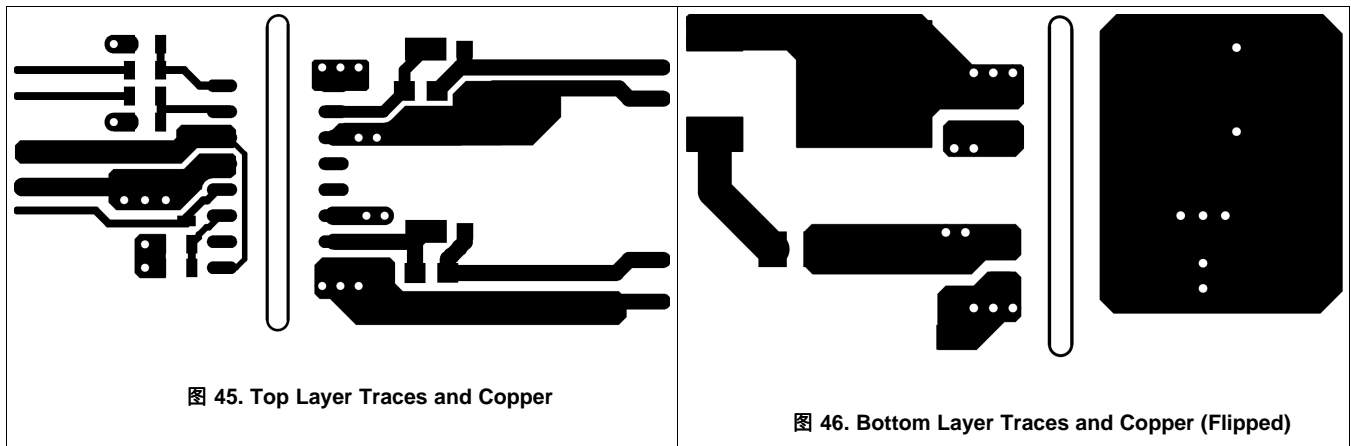

图 45. Top Layer Traces and Copper
- Increasing the PCB copper connecting to VDDA, VDDB, VSSA and VSSB pins is recommended, with priority on maximizing the connection to VSSA and VSSB (see 图 45 and 图 46). However, high voltage PCB considerations mentioned above must be maintained.
图 45 and 图 46 shows top and bottom layer traces and copper.